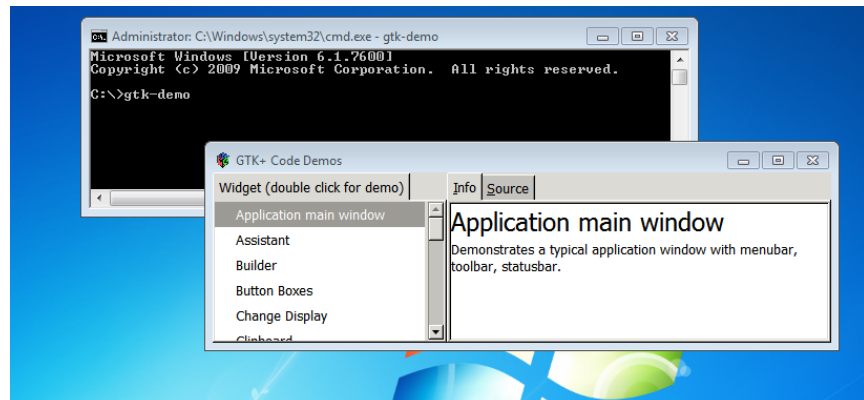

Figure 5-21. Testing the *gtk-demo* program
4. Test the installation. Open a command prompt (Start→All Programs→Accessories→Command Prompt). Type `gtk-demo` and press Enter (Figure 5-21).